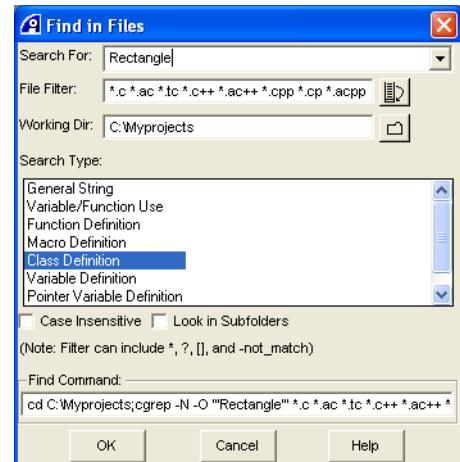

Figure 13-16 Find In Files dialog box
2. Select **Find Class Definition...** from the context menu to display the Find in Files dialog box. Figure 13-16 shows an example: